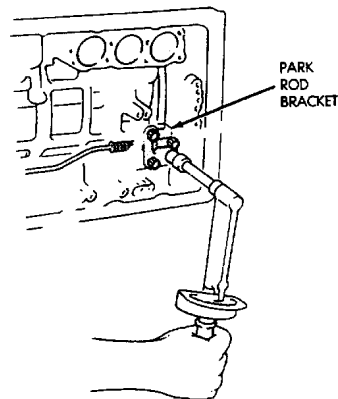

Fig. 26 Installing Park Rod Bracket
(16) Install park rod bracket (Fig. 26). Tighten bracket bolts to 10 N·m (7 ft-lbs) torque.